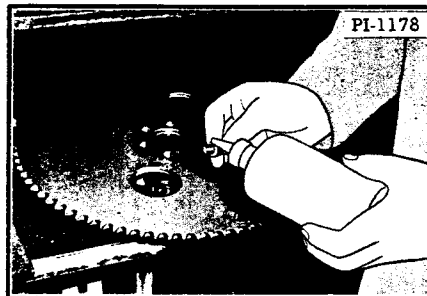
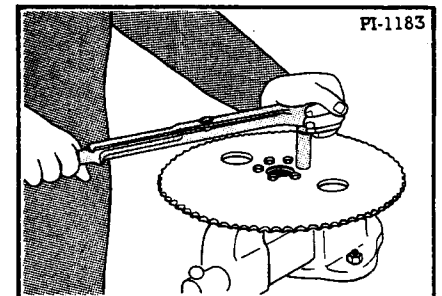
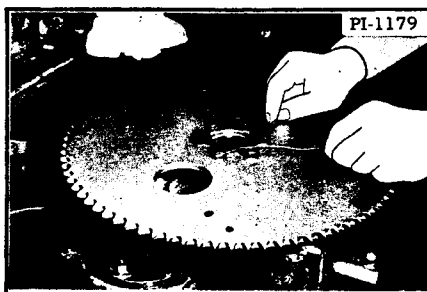

Fig. 86 Insert the Connector Screws
Fig. 87 Torque the Connector Screws
Fig. 88 Safety Wire the Screws
4. Fasten the large sprocket to the cluster sprocket. Use Loc-Tite[®] (Figure 86) and torque the connector screws to 55 ft. lbs. (Figure 87). Safety wire the connector screws (Figures 88 and 89).